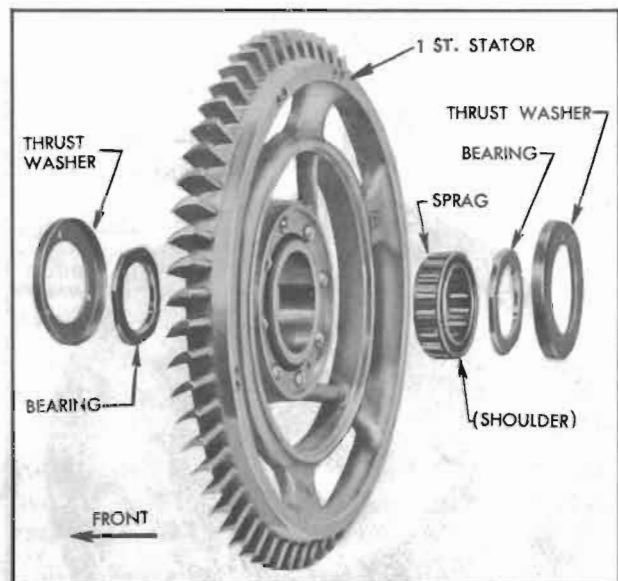

Figure 5-43—First Stator Parts
3. Lay first stator on bench with thin edges up. Place first stator sprag in hub of first stator with shoulder down. Install one bronze bearing and cupped thrust washer on each side of sprag. See Figure 5-43.